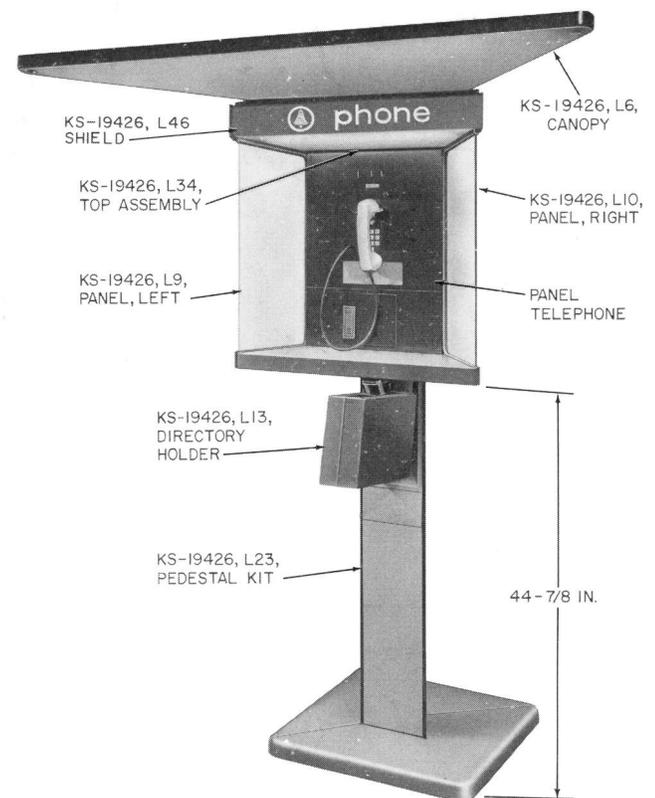

Fig. 1—KS-19426 Mounting for Walk-Up Service
#### PEDESTAL MOUNTINGS (Fig. 1 and 2)
**2.04 List 6 Canopy:** Install KS-19426, List 6 canopy (Fig. 1), if required, as follows: